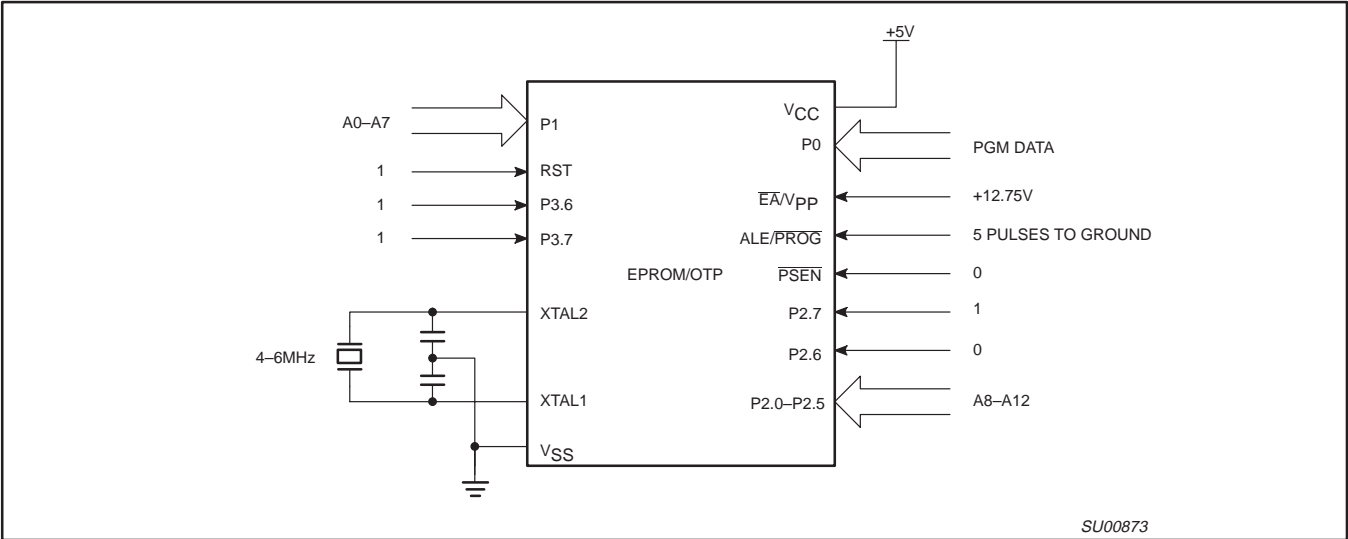
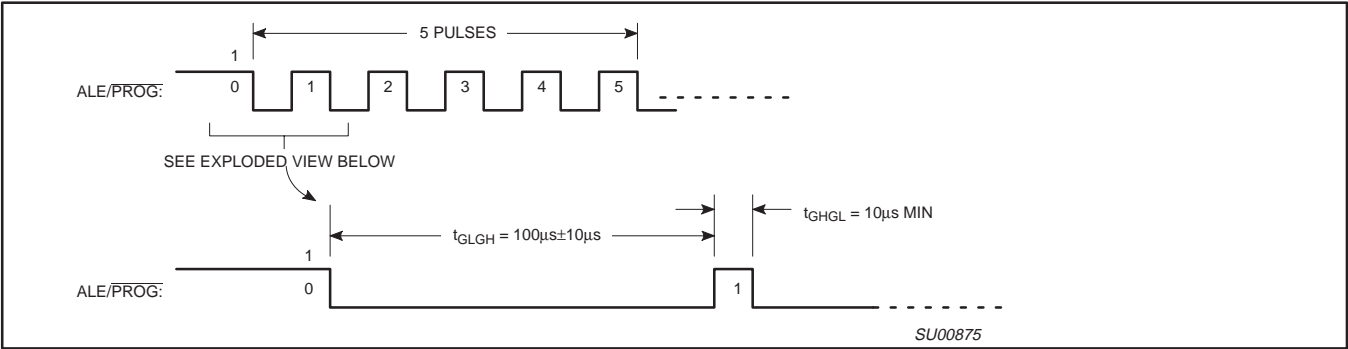
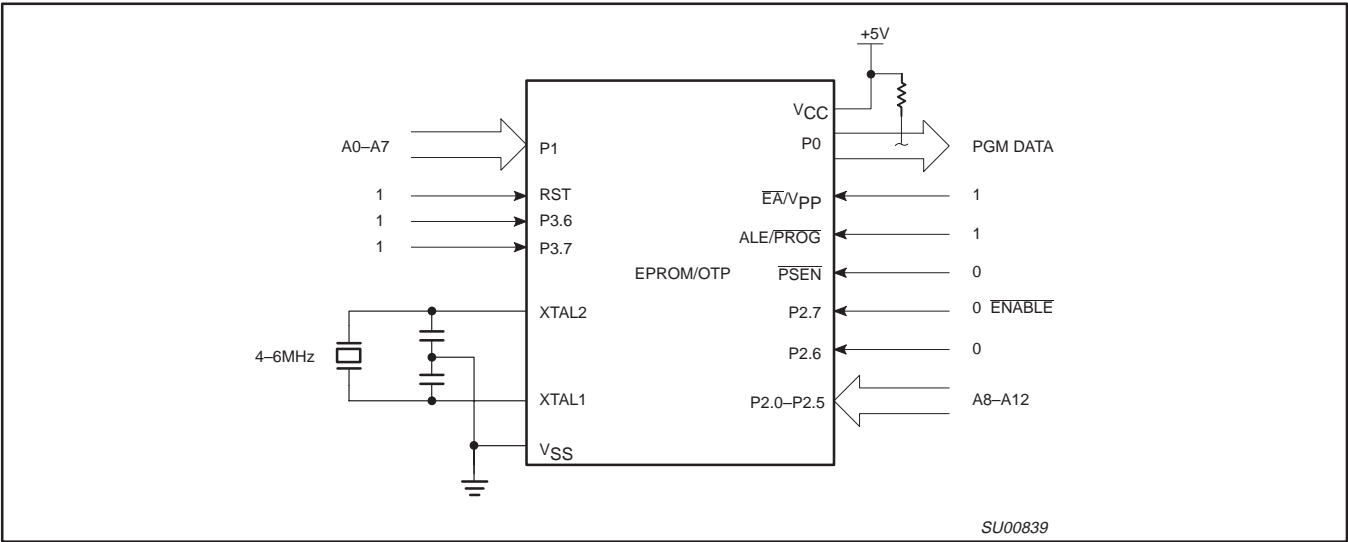

Figure 26. Programming Configuration
Figure 27. \overline{PROG} Waveform
Figure 28. Program Verification
Table 8 shows the logic levels for reading the signature byte, and for programming the program memory, the encryption table, and the security bits. The circuit configuration and waveforms for quick-pulse programming are shown in Figures 26 and 27. Figure 28 shows the circuit configuration for normal program memory verification.
The setup for microcontroller quick-pulse programming is shown in Figure 26. Note that the device is running with a 4 to 6 MHz oscillator. The reason the oscillator needs to be running is that the device is executing internal address and program data transfers.
The address of the EPROM location to be programmed is applied to ports 1 and 2, as shown in Figure 26. The code byte to be programmed into that location is applied to port 0. RST, \overline{PSEN} and pins of ports 2 and 3 specified in Table 8 are held at the 'Program Code Data' levels indicated in Table 8. The ALE/PROG is pulsed low 5 times as shown in Figure 27.
If security bits 2 and 3 have not been programmed, the on-chip program memory can be read out for program verification. The address of the program memory locations to be read is applied to ports 1 and 2 as shown in Figure 28. The other pins are held at the 'Verify Code Data' levels indicated in Table 8. The contents of the address location will be emitted on port 0. External pull-ups are required on port 0 for this operation.
- * FOR PROGRAMMING CONFIGURATION SEE FIGURE 26.
FOR VERIFICATION CONDITIONS SEE FIGURE 28.